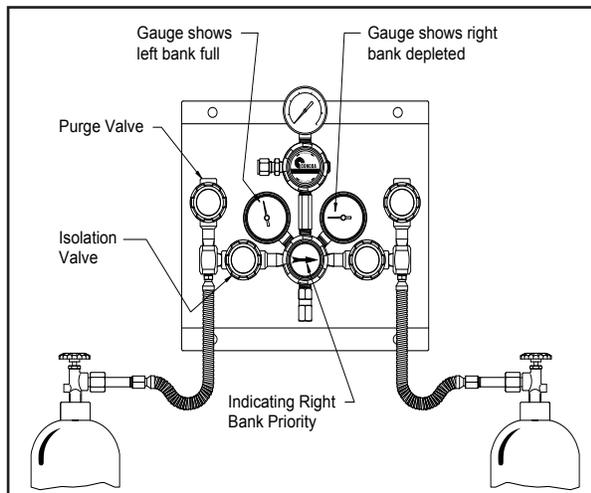

Figure 8A
6. Isolate the side that has depleted by closing its isolation valve (if equipped) as illustrated in Figure 8A.